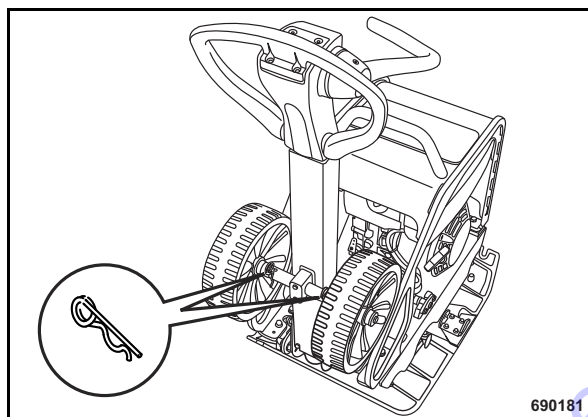

Fig. 32
- Remove the spring cotter (Fig. 32) and pull the transport wheels out of the bracket on the steering rod.